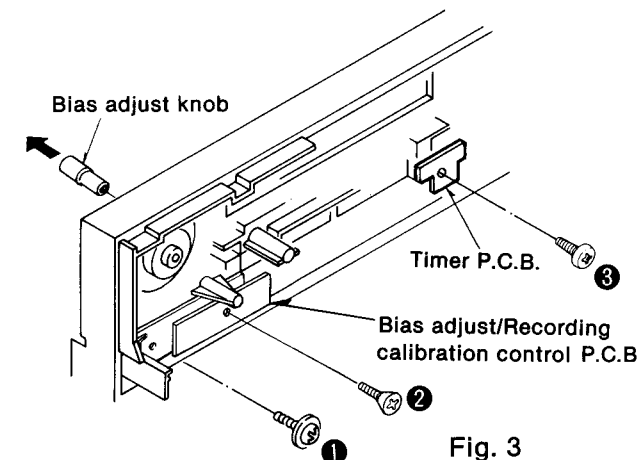

Fig. 3
2. Adjust the **VR** in the motor (see Fig. 3) so that the output is within the standard value.